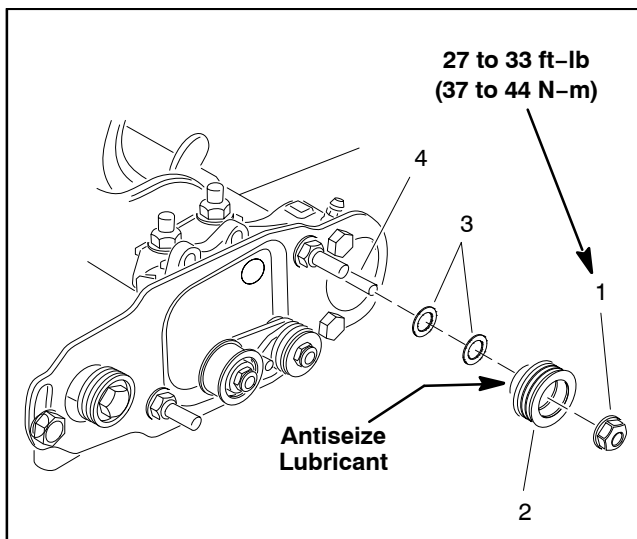

Figure 70
B. If necessary to align pulleys, remove driven pulley from brush shaft and add or remove flat washer(s) until drive and driven pulleys are correctly aligned (Fig. 70).
5. Install cover (item 20). There **should not** be a set screw installed in the bottom of the cover.